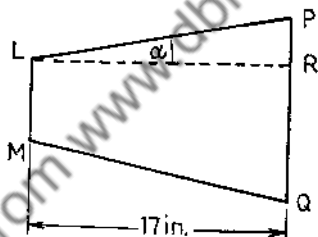

Fig. 33
(2) Find the setting of the compound slide to turn a taper of 1 in 8 in the job shown in fig. 33.